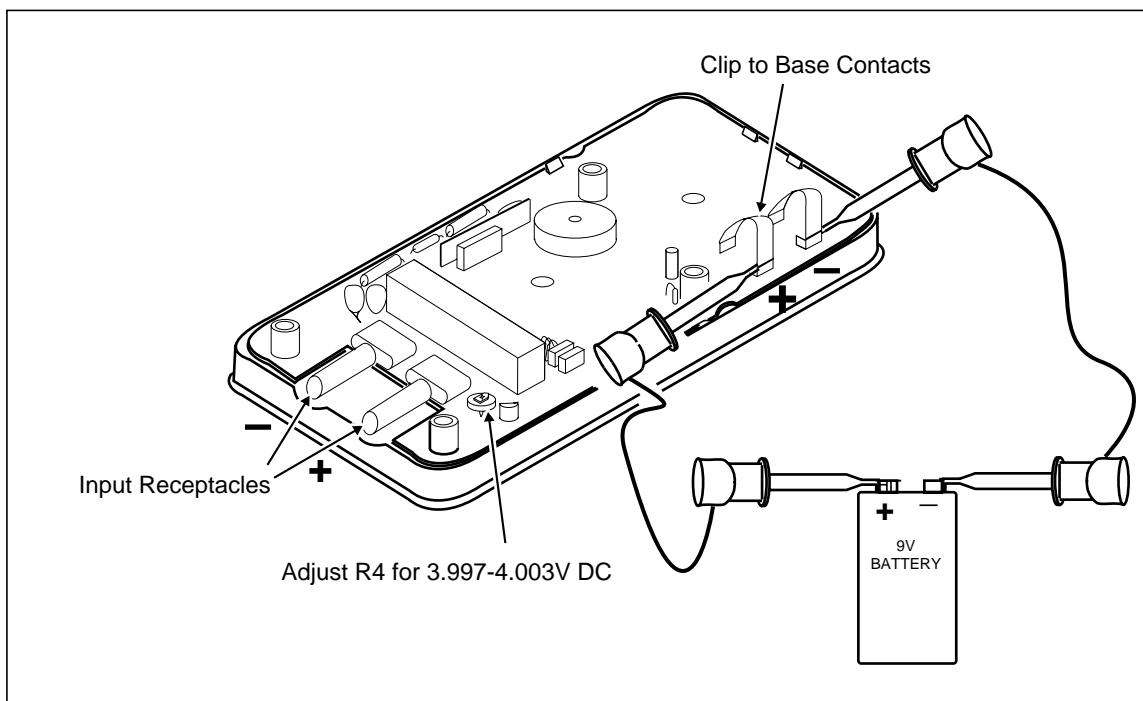

Figure 3-4. Calibration Adjustment
The meter display should read between 3.997-4.003V. If it does not, adjust R4 (see Figure 3-4) as described below.
3. Observing correct polarity, connect a 9V battery to the battery contacts using easy hook jumpers or alligator clip leads (see Figure 3-4).
To avoid stretching or bending the battery contacts, connect leads to the base of the contacts as shown in Figure 3-4.
7. Adjust R4 (see Figure 3-4) so that the meter display reads between 3.997 and 4.003V.
3. Observing the correct polarity, connect a known good 9V battery to the battery contacts using easy-hook jumpers or alligator clip leads. Refer to Figure 3-4.
To avoid stretching or bending the battery contacts, connect the leads to the base of the contacts, as shown in Figure 3-4.